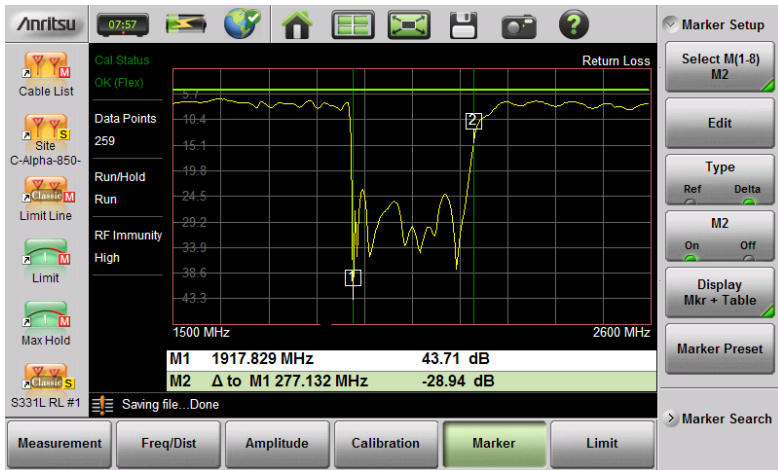

Figure 3-24. Delta Marker 2 and Marker Table
3. Markers 2 through 8 can be set as deltas to a reference marker. Use the **Type** key to set the marker type as **Reference** or **Delta** marker. Figure 3-24 on page 3-42 illustrates using a delta marker to estimate the passband of a filter.